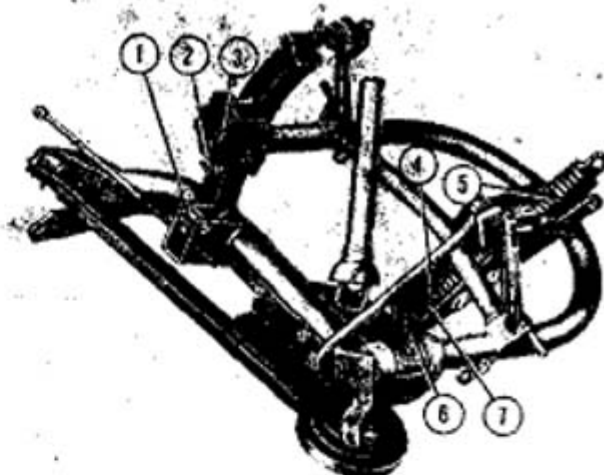

Figure 11
**Mower Lift Spring:** The lift spring (5), Figure 11, carries most of the mower weight in the operating position and directly controls the ground pressure on the inner shoe. To permit the cutter bar to follow the contour of uneven ground without excessive wear on the inner shoe, adjust the lift spring to maintain between 40 and 80 pounds on the inner shoe. When crossing borders, set the lift spring a little heavier.
To adjust the lift spring (5), Figure 11, lift the mower to transport position to reduce spring tension. Loosen the lock nut (4) and turn the spring adjusting
bolt (7) in or out as required. Secure the adjustment by turning the lock nut (4), Figure 11, against the spring as shown. The nut (6) should be kept tight against the washer so the rubber bushing will absorb shock and prevent the spring adjusting bolt (7) from rattling when the mower is in transport.
**Cutter Bar Breakout Spring:** To check breakout, loosen the bolt (3) until the breakout releases easily, then tighten as necessary. The breakout spring, concealed in the right leg of the mower upper frame, applies tension to the breakout latch (2), Figure 11, which when engaged with the roller (1) connects the right side of the upper and lower frame. When the cutter bar strikes an obstruction, the sudden added force on the cutter bar forces the latch off the roller and the cutter bar breaks back. A sliding connection is maintained between the upper and lower frame and the breakout latch may be reengaged by backing the tractor with the cutter bar on the ground. To adjust the tension on the latch (2), Figure 11, turn the bolt (3) in or out as required. The roller (1) must be free to roll for proper functioning.